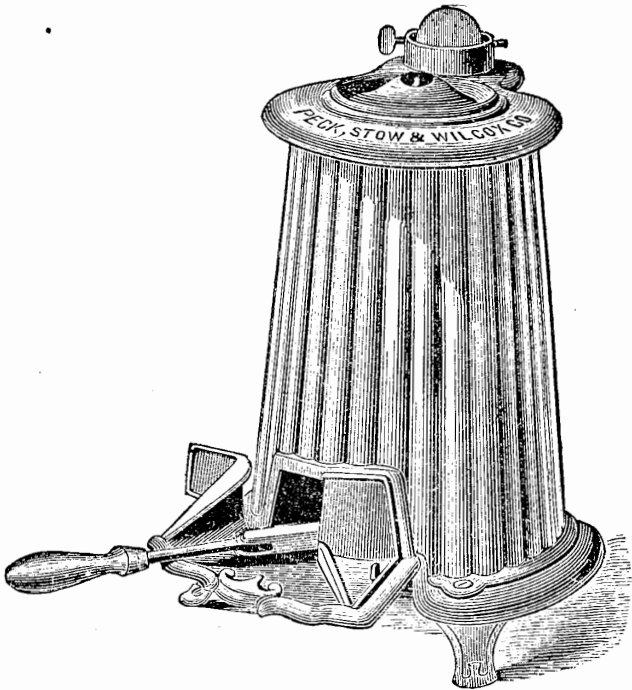

Fig. 141.
**Tinners' Firepots.** The firepot shown in Fig. 141 is a universal favorite with tinners. It is lined with fire brick and made in the most substantial manner. The draft door is in two sections, which economizes fuel.